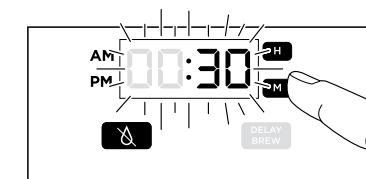

Fig. 13b
- 2 Press either the hour (H) or minute (M) button until the desired extension time is shown: dFLt (default), :15 (+15 seconds), :30 (+30 seconds), :45 (+45 seconds), :60 (+60 seconds), or OFF (Fig. 13b).